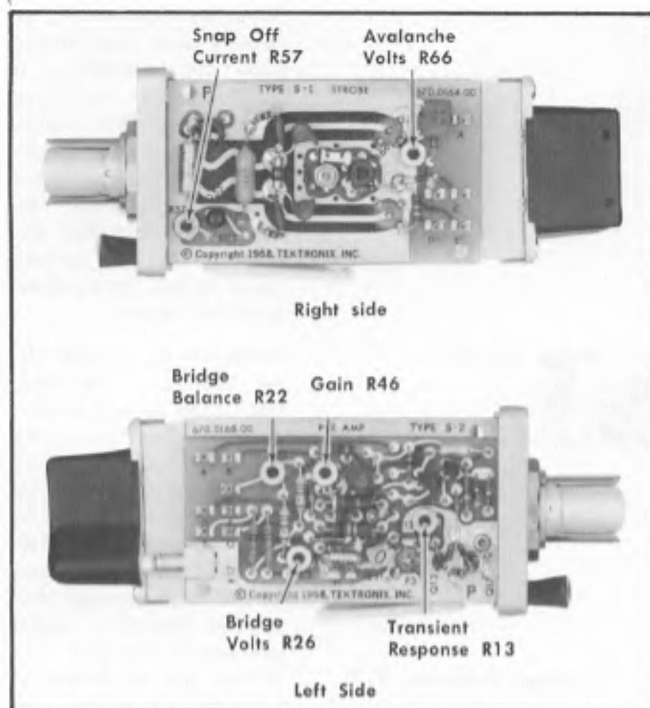

Fig. 5-7. Sampling head control locations.
b. Remove the sampling head cover. The head must be on an extender cable for access to all controls. Make the connections shown in Fig. 5-4. Set the controls as in Step 3. Preset the sampling head internal controls (see Fig. 5-7):